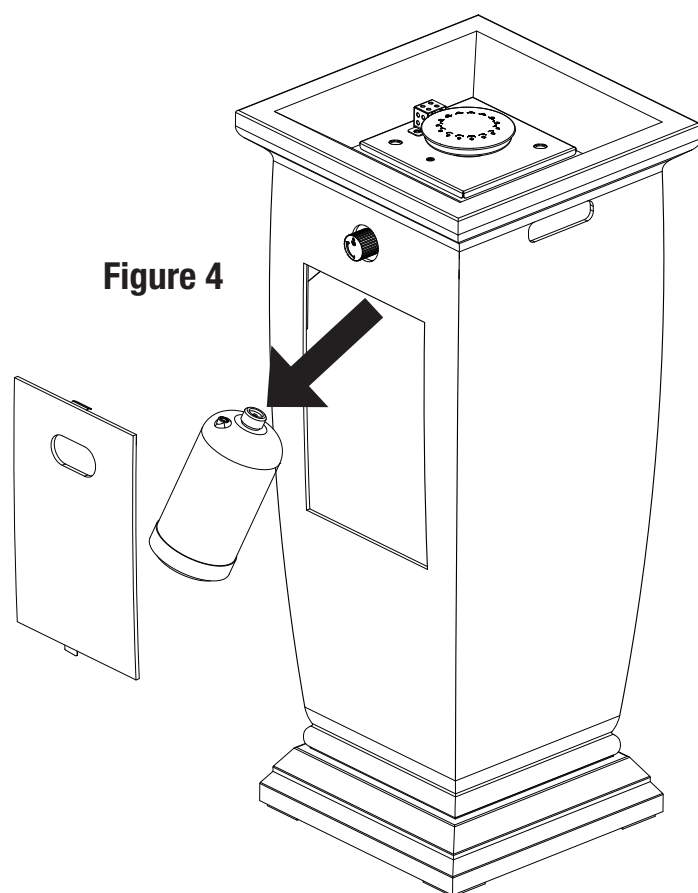

Figure 4
4. Remove LP gas tank (Figure 4).